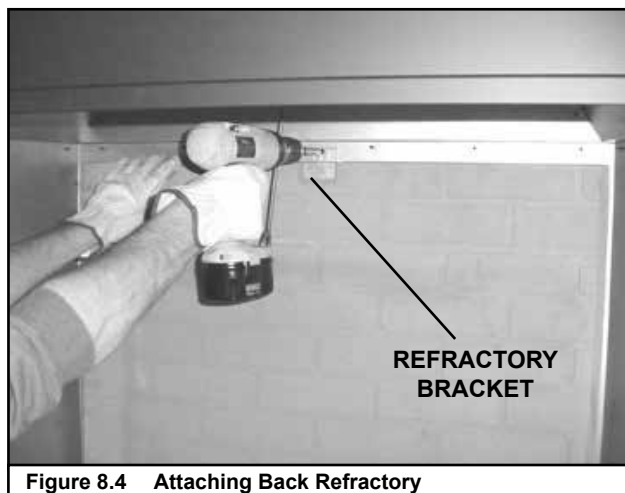

Figure 8.4 Attaching Back Refractory
- Secure back refractory in place with a screw and bracket supplied in hardware package. See Figure 8.4.